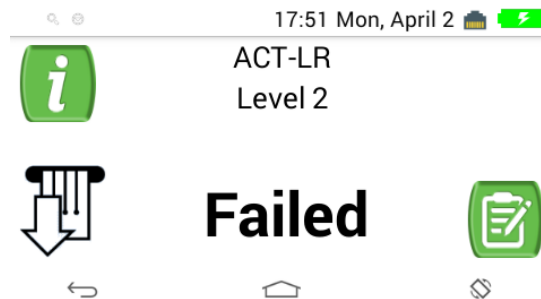

Figure 52 – LQC test: Two possible results
- **LQC testing is not allowed** – If  or  is displayed for EQC, LQC testing is not allowed. EQC is in this state either because the EQC interval time expired or because the previous EQC test failed. See Figure 52.